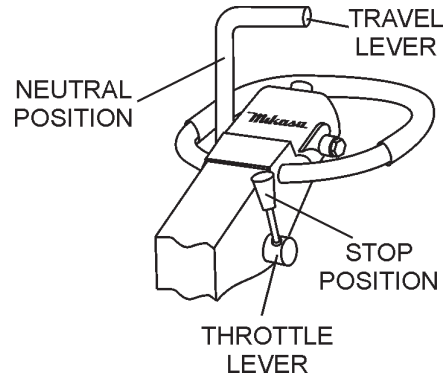
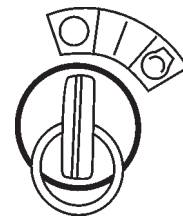

Figure 22. Throttle Lever (Stop)
Figure 23. Starter Switch (STOP)
3. Place the throttle lever in the **STOP** position (Figure 22) to stop the engine. If using an electric start unit, return the key switch to the **STOP** position (Figure 23) as soon as the engine stops.